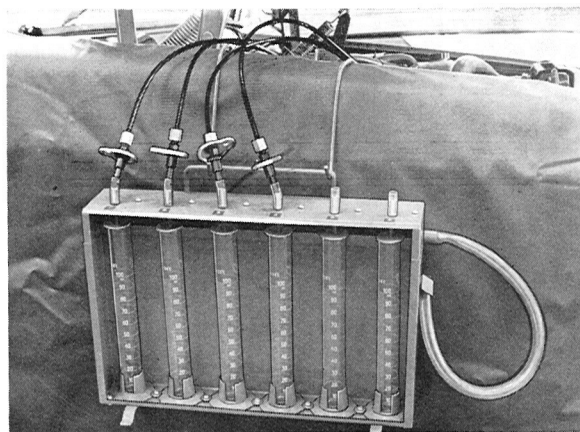

Fig. 1-40. Connection of test equipment
30. Connect the injectors to the test equipment, see Fig. 1-40. Turn the valve lever to position 1.